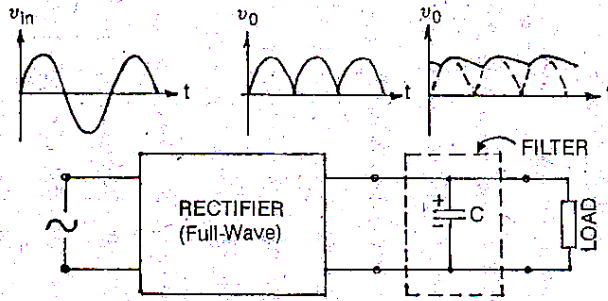

Fig.76.1
**Marks (7)**
**Ans:** **Function of a Capacitor Filter used with the Rectifiers:** A Shunt Capacitor filter is shown in fig. 76.1 In this case, a capacitor C of large value is connected in parallel with the load resistance and hence the name Shunt Capacitor Filter. The capacitor offers a low reactance path to a.c. component and allows it to pass through but it acts as an open circuit to d.c. component. Hence, all the d.c. current passes through the load.